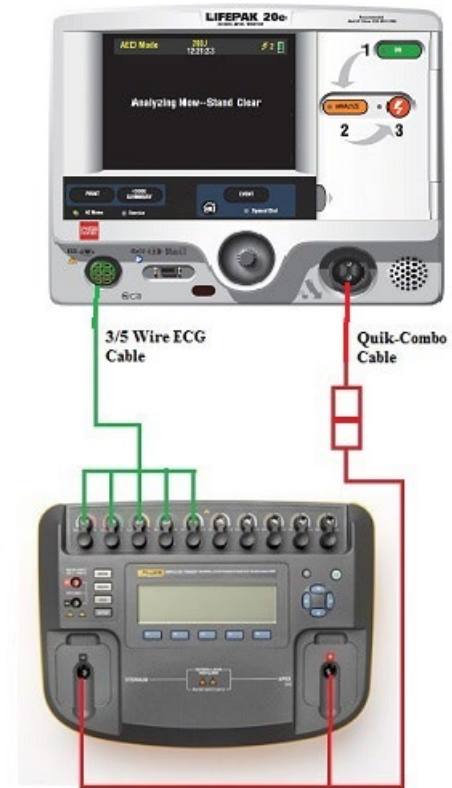

Figure 2.2: Defibrillator Energy Calibration Setup
1. Establish the setup as shown in Figure 2.2.